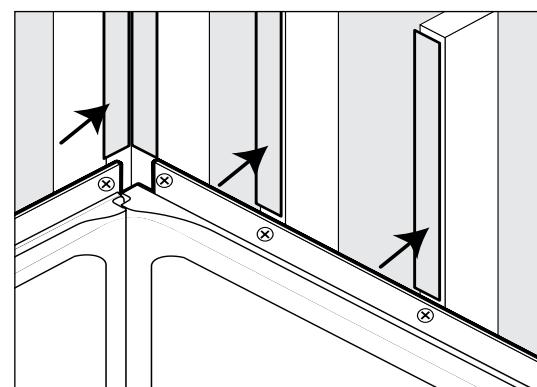

FIGURE 11. Shim studs.
- a. Shim studs with lattice strips or 1/4" luan so that finishing board will overlap nail flanges. (Fig. 11)